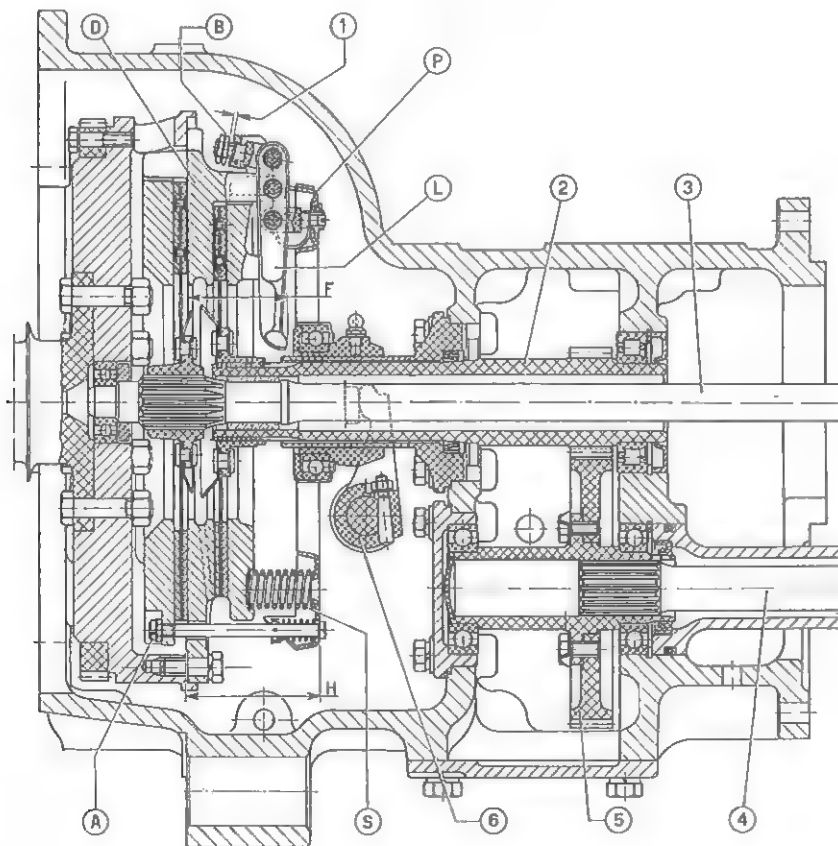

Fig. 34. - Cross-section of engine clutch and P.T.-O. drive gears.
- This clearance, which must always be maintained to allow the clutch to function properly, is included between 0.051 in. and 0.067 in. (1,3 to 1,7 mm) (see 1, fig. 34).
The clutch springs (S, fig. 34) do not all possess exactly the same characteristics, therefore each has been given a different colour to make sure that the original fitting order will be maintained at reassembly i.e., install the green-painted springs laterally to the release lever pivot supports.
Should the measurement taken be off the limits given, check once more the 11" disc control linkage setting, or bring back the clearance under the three nuts (1, fig. 34) inside the limits of 0.051 to 0.067 in. (1,3 to 1,7 mm) after engagement of the clutch (pedal relaxed). The latter operation is seldom required.